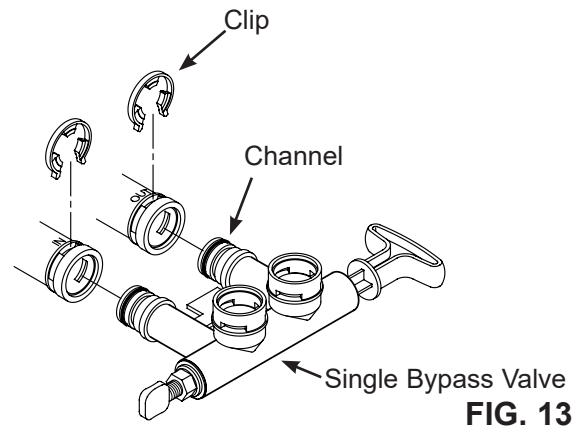

FIG. 13
- e. Push the single bypass valve into the softener valve as far as it will go. Snap the two large holding clips into place, from the top down as shown in Figures 13 & 14.